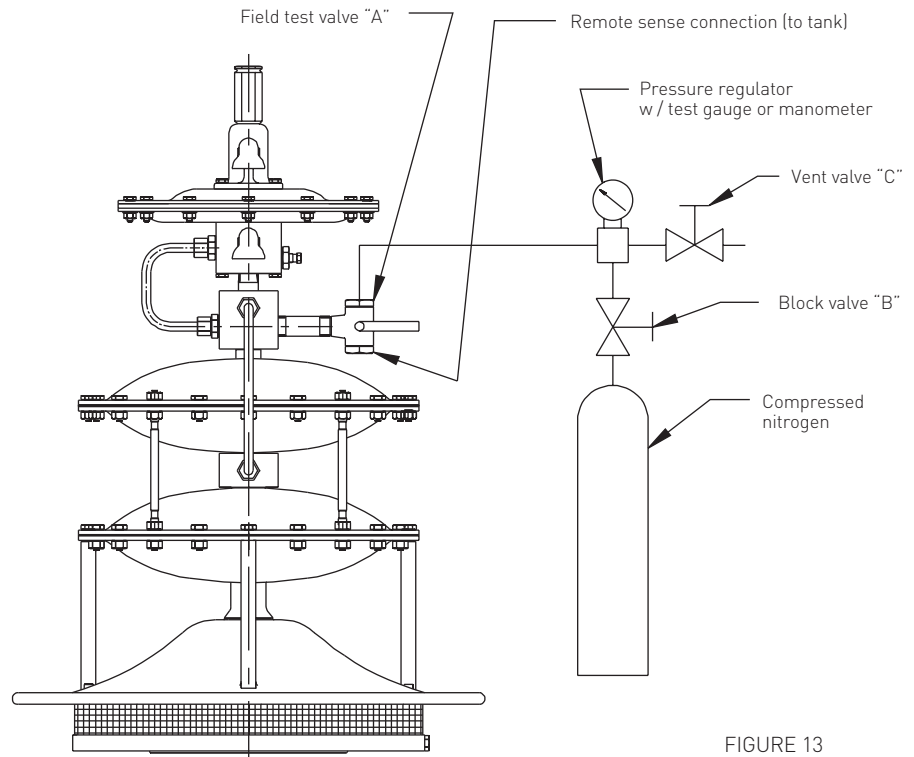

FIGURE 13
A standard bottle of nitrogen equipped with a pressure regulator, block valve, pressure gage, and convenient length of high pressure flexible hose is recommended for testing. A set-up similar to that shown in Figure 13 should be used. Such a test kit is available from Anderson Greenwood under the part number 04.4812.001 plus additional dash numbers for the pressure gauges required.
- Connect gas bottle as shown in Figure 13.